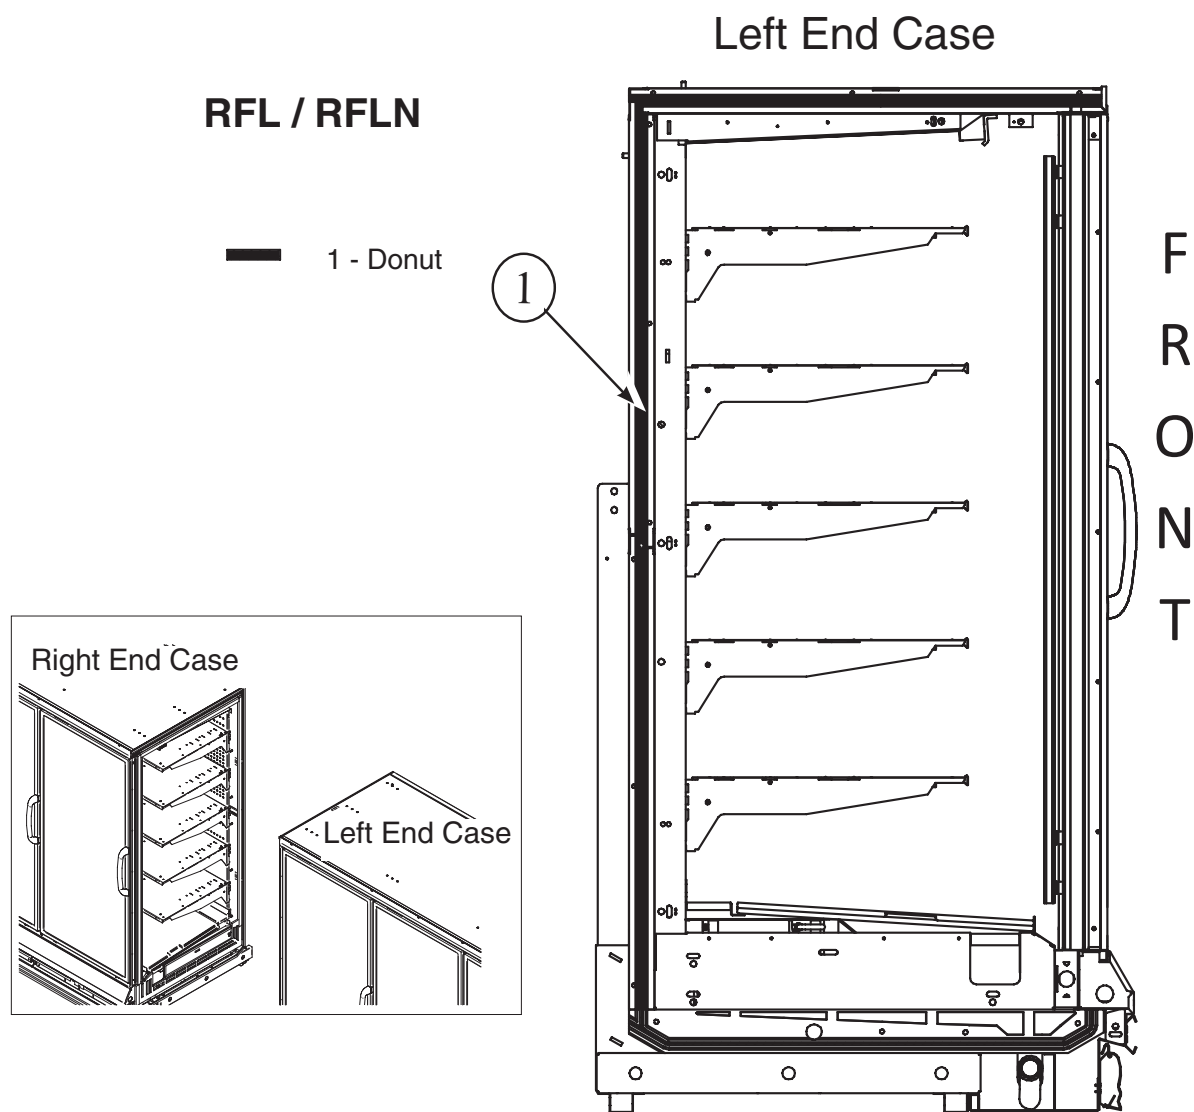

Figure 5A Apply Gasket to Left End
- 5 Apply Donut Gasket – 1 in recess around both left end and right end as shown in Figure 5A and 5B (5B shown on next page).